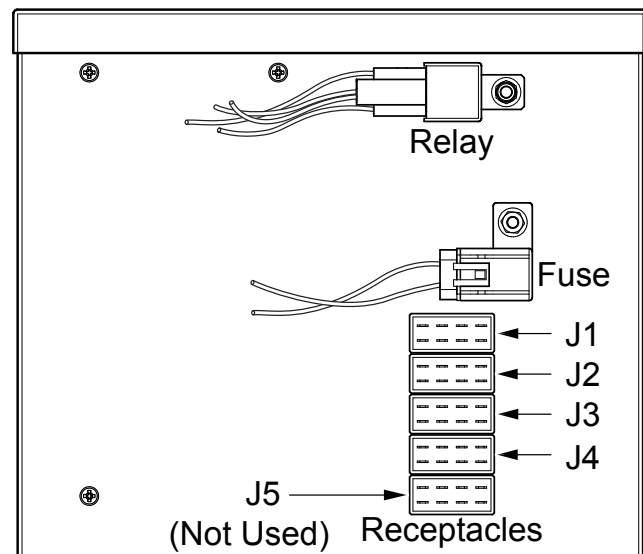

Figure 4. Control Box Rear Receptacles
6. Reconnect the 4 plugs to the corresponding receptacles on the new control box. See Figure 4 for location of receptacles. Receptacle J5 will not be used.